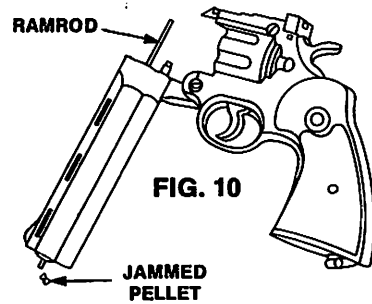

FIG. 10
C. If the jam is in the Barrel, remove the Pellet Clip, and using a straightened wire clothes hanger, push the jammed pellet out the Muzzle end of the Barrel. Fig. 10.